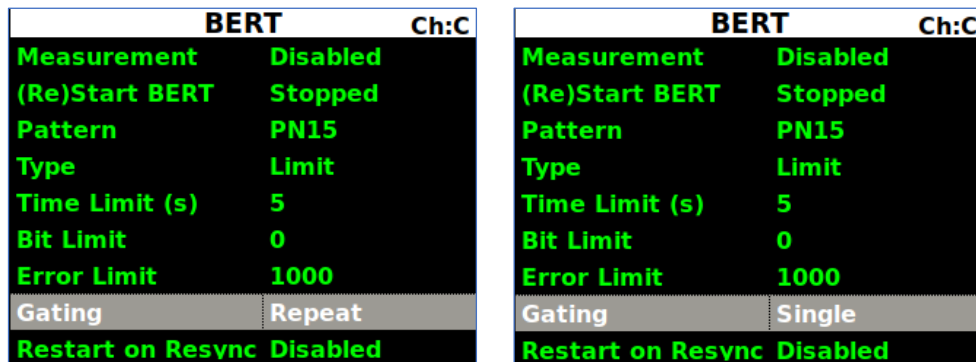

Figure 139: BERT, Gating
- Gating –Selects the action that occurs when the current measurement completes; this can be to stop, or to run a new measurement, as shown in Figure 139